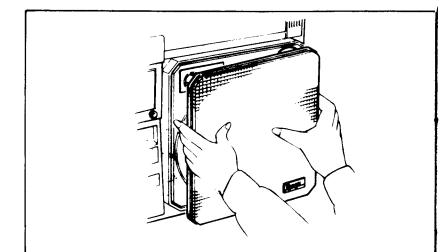

Figure 13
- Force the speaker net out by supporting its rubber frame with the fingers. To reset it, fit the four corners of the rubber frame into the unit and straighten them carefully. (Refer to Figure 13)